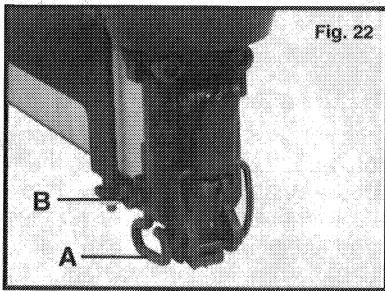

Fig. 22
The depth to which a fastener is driven is controlled by the position of the depth stop (A) Fig. 22. The depth of drive is factory adjusted to the maximum setting. Test fire a fastener and check depth. If a change is desired, use the $\frac{3}{32}$ " hex wrench, to loosen locking screw (B) Fig. 22. Slide the depth stop out to the desired position and secure by retightening the locking screw. Test fire another fastener and check depth. Repeat as necessary to achieve desired results. **NOTE:** TOOL MUST BE HELD FIRMLY AGAINST THE WORK OR DRIVE DEPTH WILL VARY.